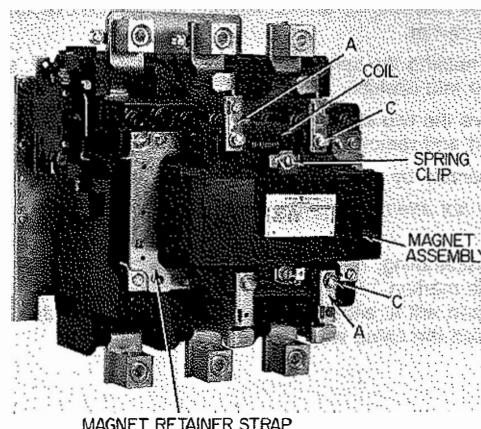

Figure 1. 200 ampere lighting contactor, CR360L.
1. Loosen coil retainer screws (C-Fig. 1). Press against coil while pulling slightly on coil retainers (A-Fig. 1), and move retainers away from coil.